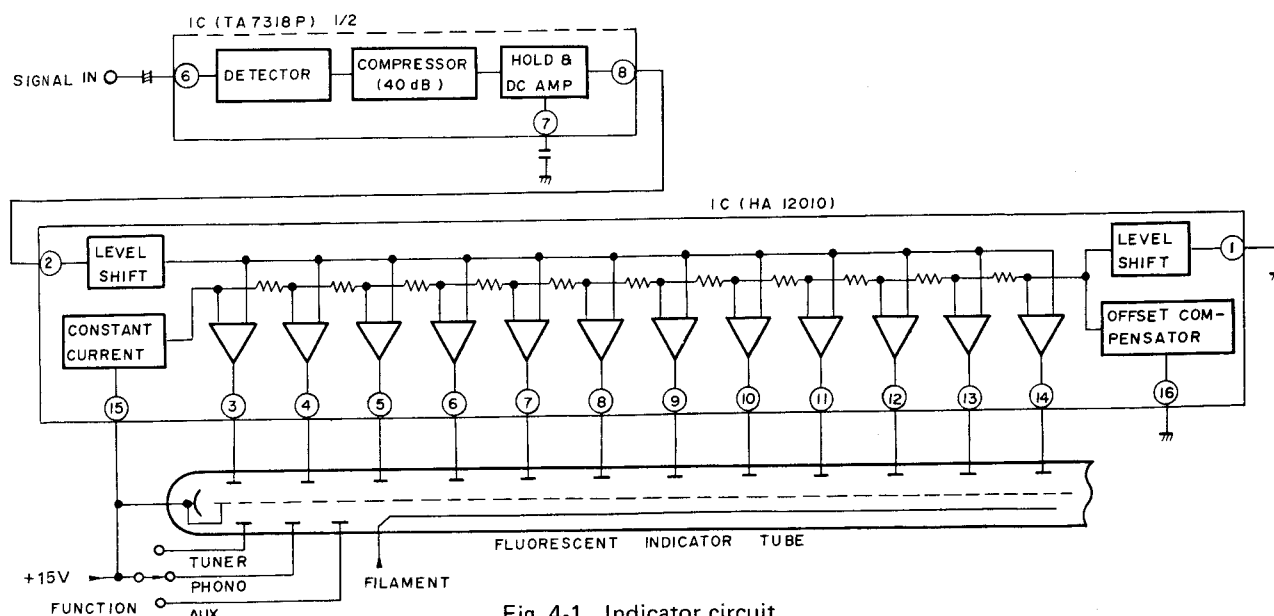

Fig. 4-1 Indicator circuit
An outline of the FL tube drive circuit is shown in Fig. 4-1. The output circuit signal is applied to pin no. 6 (4) of the IC (TA7318P-A). The IC contains a detector circuit, compressor (40dB), and peak hold circuit for both left and right channels. The dynamic range of the signal is thus contracted by 40dB to obtain a "peak held" DC voltage.